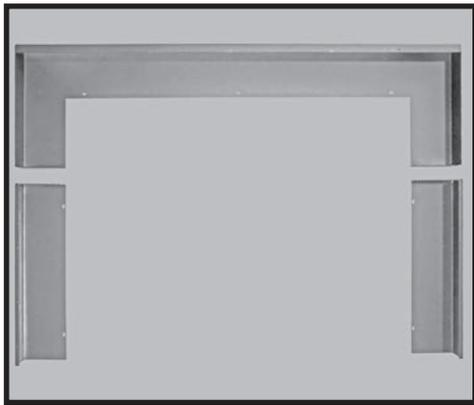

Fig. 1: Outer surround rear side.
1. Lay the horizontal plate and the two vertical plates front side down on a flat soft surface (Fig. 1).